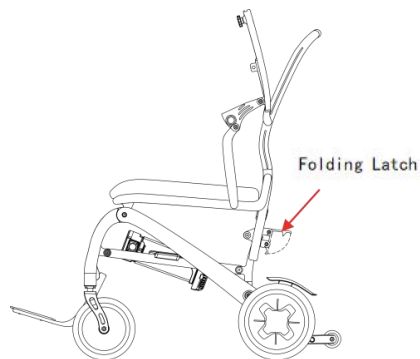

Figure 14
4.2.1 First, lift the folding latch. (See Figure 14)